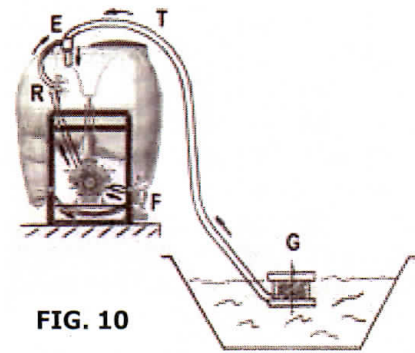

FIG. 10
b) FILLING WITH THE ANTI-POLLUTION EJECTOR (FIG. 10)